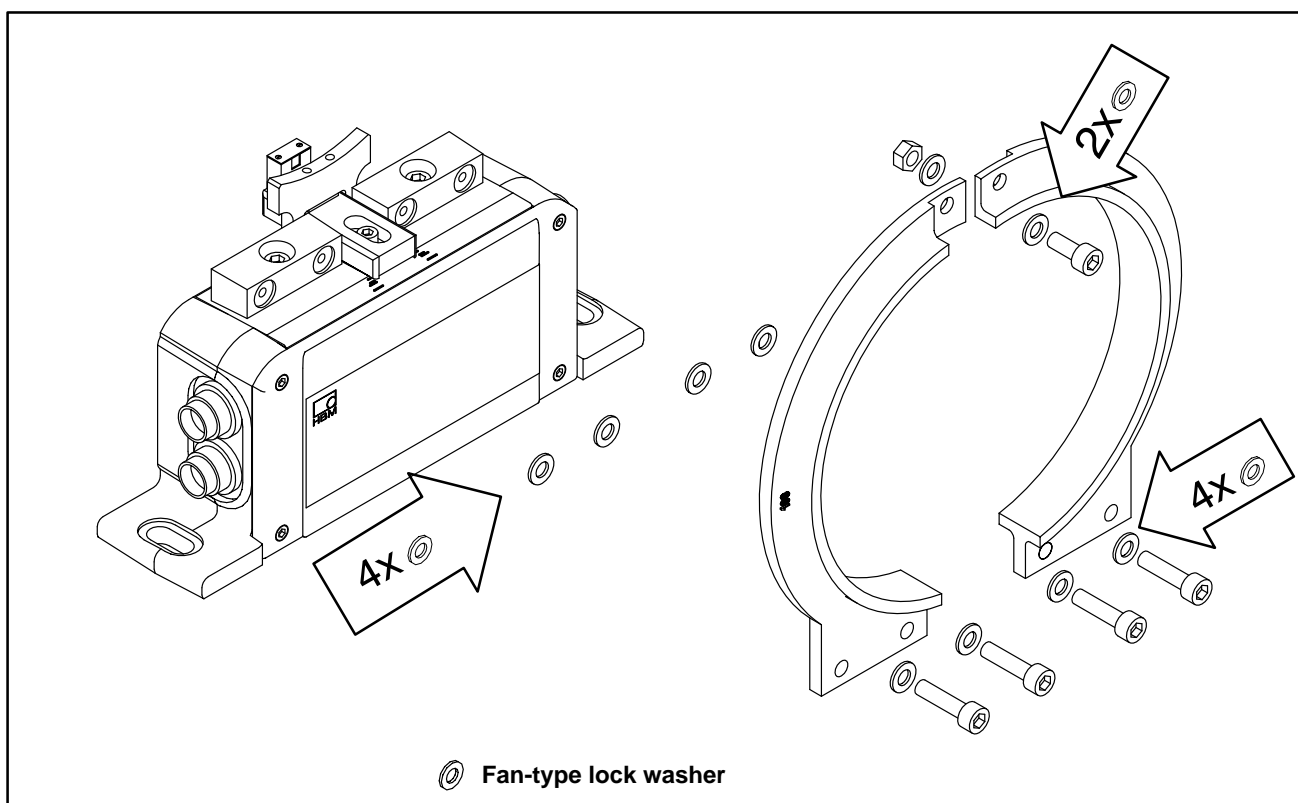

Fig. 4.2: Screwed joints of the antenna segments
3. Now mount the antenna segment removed under point 1. back on the stator with two hexagon-socket screws and the fan-type lock washers. Make sure that none of the fan-type lock washers necessary for a defined contact resistance are missing (see Fig. 4.2). Do not yet fasten the screws.